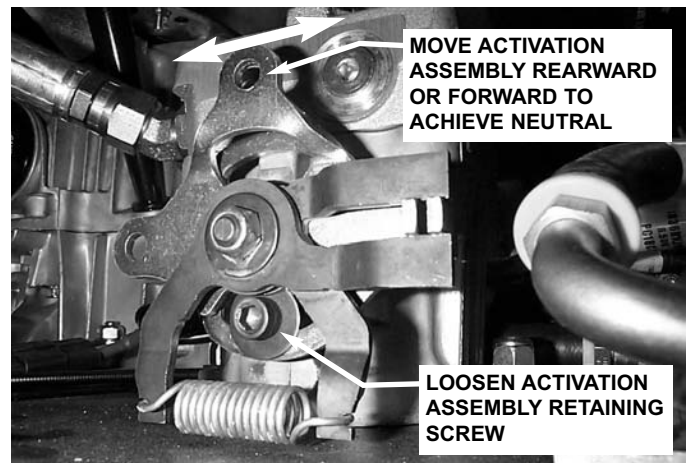

FIGURE 5.3
10. If wheel(s) are rotating, loosen the hydro pump activation assembly retaining screw. Move activation assembly forward or rearward to stop rotation of wheel. Retighten retaining screw. Repeat this step for other hydro pump. See Figure 5.3. **NOTE:** On some pumps, the retaining screw is located on the upper half of the activation assembly.